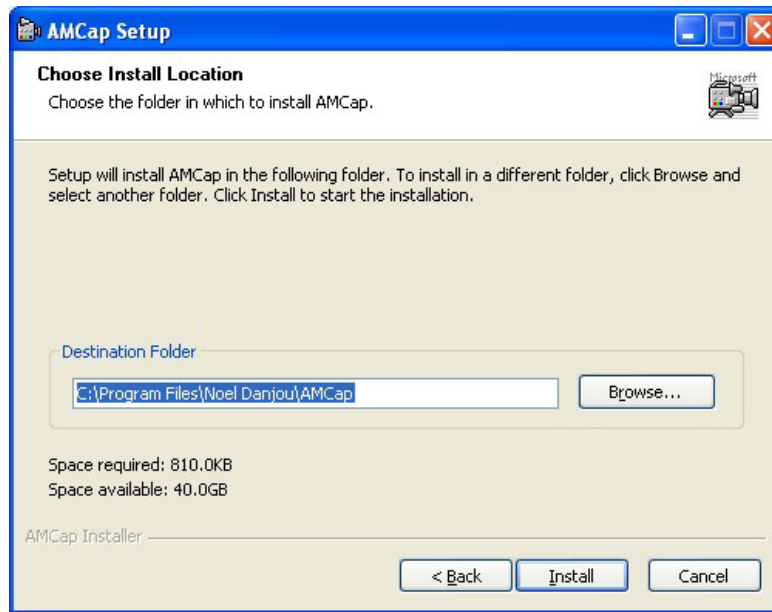

Figure 8-43: AMCap Driver Choose Install Location
Step 6: Browse for an install location or use the one suggested (**Figure 8-43**).